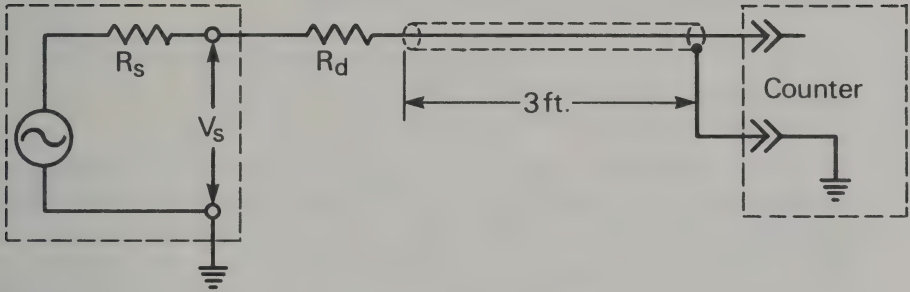
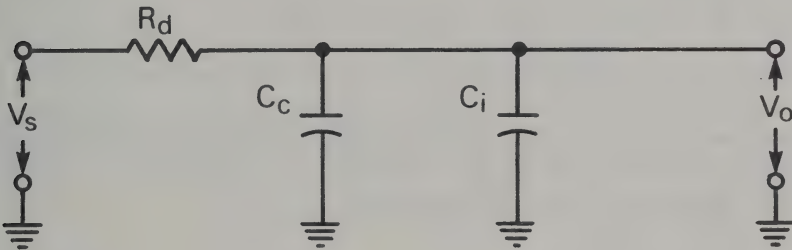

Fig. 15. Use of damping resistor when performing frequency measurements.
Fig. 16. Equivalent circuit.
A. DAMPING RESISTOR CALCULATION (Refer to Fig. 15 and 16)
Fig. 15 illustrates the use of a damping resistor when performing frequency measurements. As shown in Fig. 16, the cable capacitance, C_c , and the counter input capacitance, C_i form a voltage divider. When a damping resistor, R_d , is added in series. In order for the damping resistor to have the optimum damping effect on ringing and overshoot, the value of R_d must be calculated. In order to calculate the value of R_d , the signal amplitude and frequency must be known. However, the frequency is usually unknown before the frequency measurement. Therefore, only the approximate value of R_d can be determined by estimating the source frequency. To maintain a minimum voltage of 30 mV RMS at the counter input (V_o), calculate the value of R_d using the following formula: